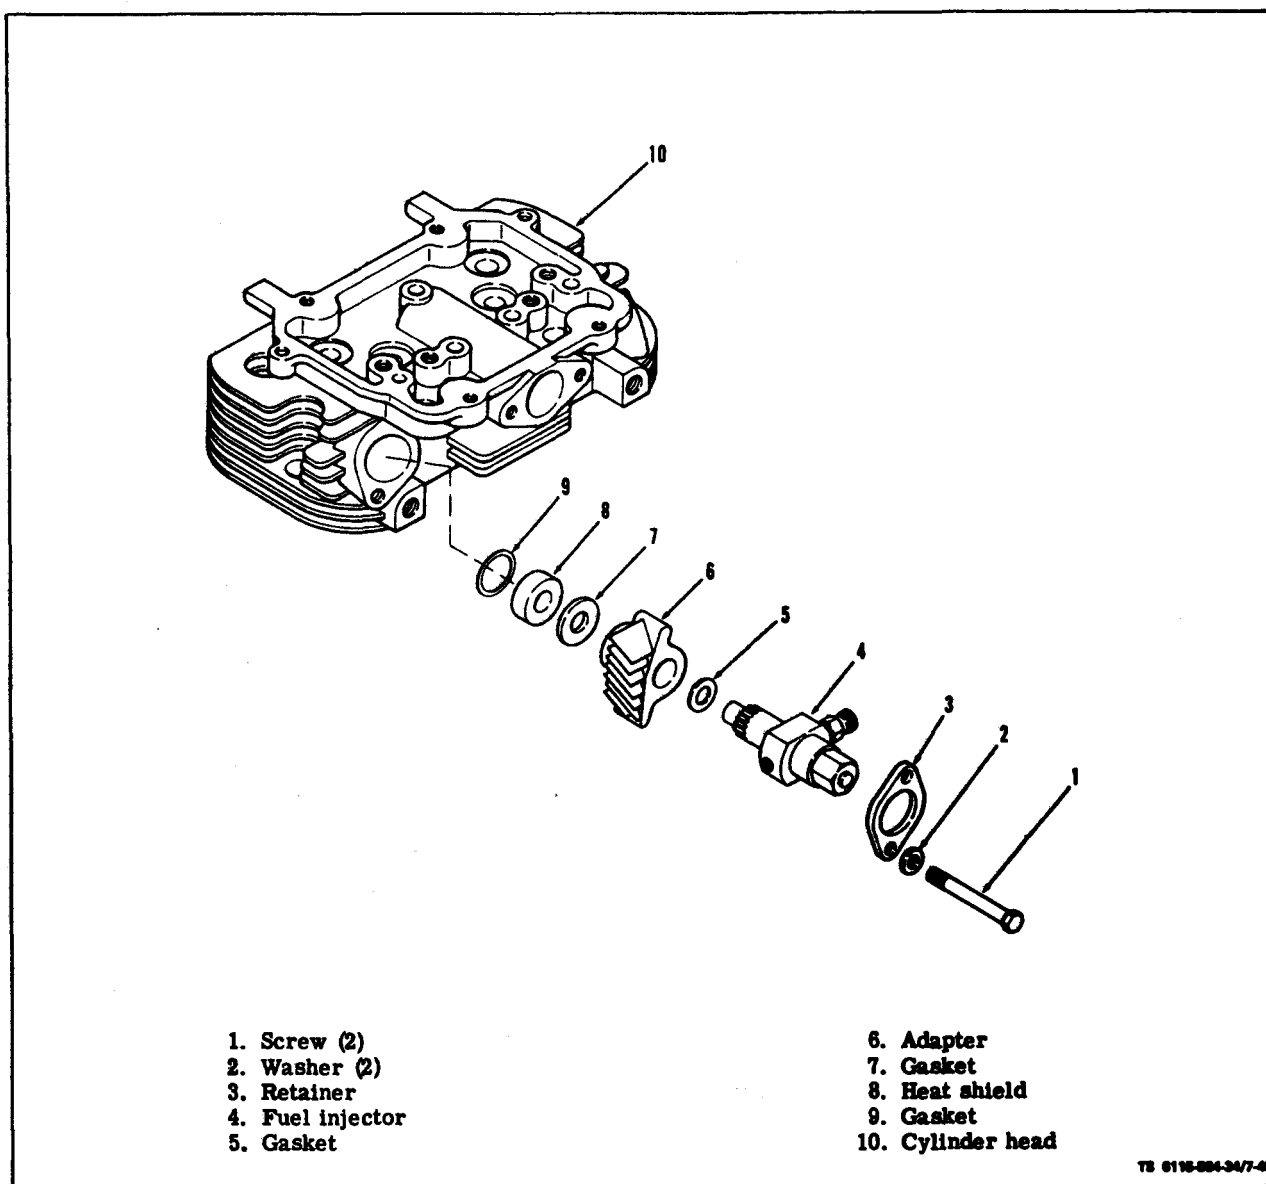

Figure 7-45. Injector Nozzle Removal
(2) Remove screws (1, figure 7-45), washers (2) and retaining flanges (3).
(3) Remove fuel injector (4), gasket (5), adapter (6), gasket (7), heat shield (8) and gasket (9). Separate injector from other components.
- (1) Make sure old gasket material has been removed from injector.
- (2) Assemble new nozzle gasket (5, figure 7-45), adapter (6), gasket (7), heat shield (8) and gasket (9) on injector (4).
- (3) Install injector and assembled parts into cylinder head (10).
- (4) Install retaining flange (3) and tighten down with screws (1) and washers (2).
- (5) Reconnect fuel lines as described in paragraph 7-2.
- (6) On ASK equipped generators, refer to Operator and Organizational Maintenance Manual and replace right panel assembly.